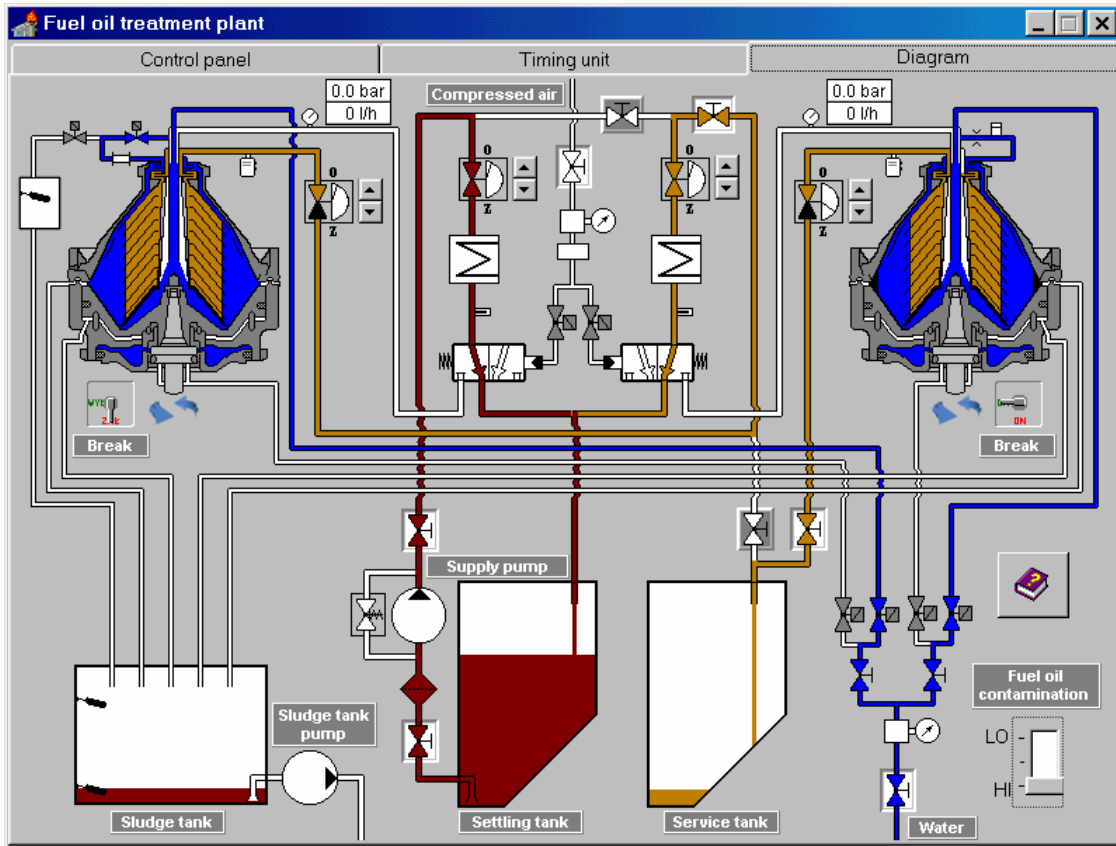

Fig. 7 Fuel oil displacement operation
The cleaning process is automatically controlled (in case the switch “Automatic control” is set on position I). After the time lapse  $t_s$ , sludge discharge occurs. Three/two-way piston valve (15) returns to the primary position and the fuel oil is transmitted back to the settling tank. The fuel oil remaining in the centrifuge 1 is displaced by the water to the settling tank, and the clean fuel oil from the centrifuge 2 is displaced to the service tank, as presented on Fig. 7 (in case the switch “Displacement” is set on position I).